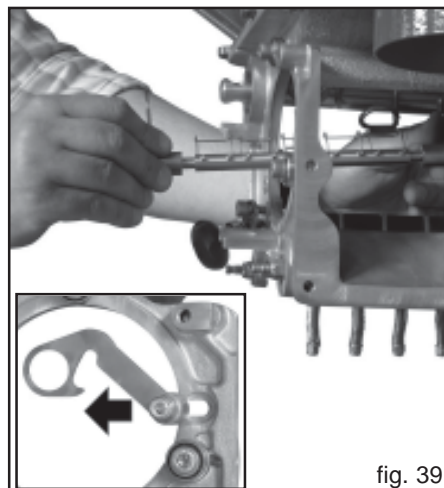

fig. 39
- 4) Extract the shaft of the spring elements from its housing (Fig. 39).